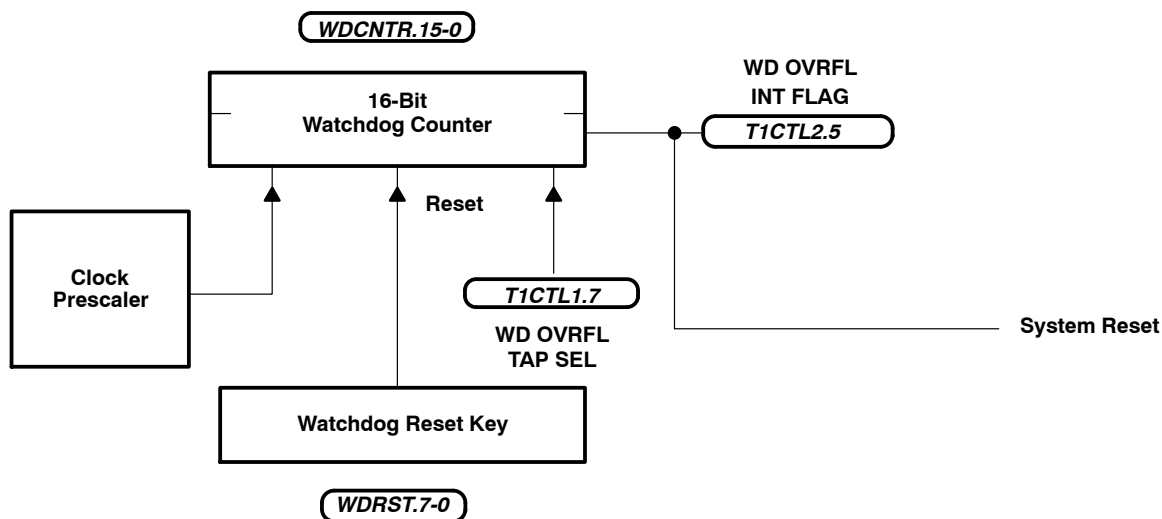

Figure 10. Hard Watchdog
- Hard watchdog configuration for mask-ROM device (see Figure 10)